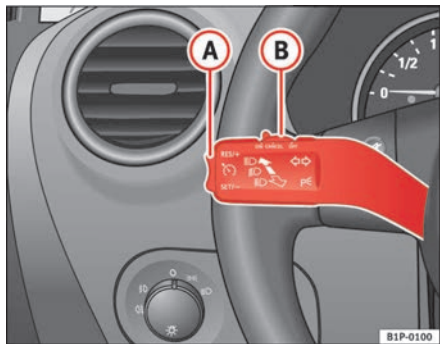

Fig. 127 Turn signal and main beam headlight lever switch and rocker switch for the cruise control
- Press the lower part **SET/SET** of the rocker switch ⇒ fig. 127 **A** once briefly when you have reached the speed you wish to set.